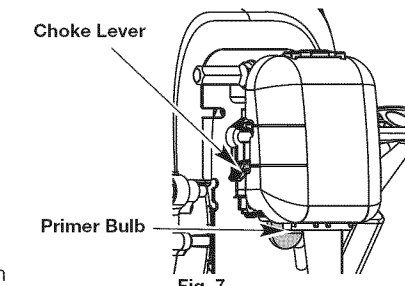
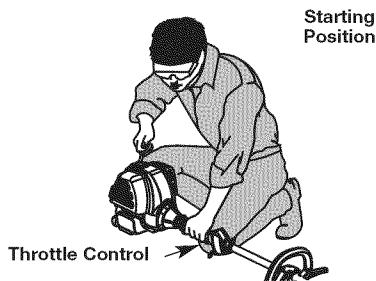

Fig. 7
Fig. 8
WARNING: Avoid accidental starting. Make sure to be in the starting position when pulling the starter rope (Fig. 8). To avoid serious injury, the operator and unit must be in a stable position while starting.
3. Fully press and release the primer bulb 10 times, slowly. Some amount of fuel should be visible in the primer bulb and fuel lines (Fig. 7). If fuel can not be seen in the bulb, press and release the bulb until fuel is visible.
4. Place the choke lever in **Position 1** (Fig. 7).
5. Crouch in the starting position (Fig. 8). Press the throttle lock-out in and squeeze the throttle control lever. Pull the starter rope 5 times.
6. Place the choke lever in **Position 2** (Fig. 7)
IF... the engine hesitates, return the choke lever to **Position 2** (Fig. 7) and continue warm-up.
3. Fully press and release the primer bulb 10 times, slowly. Some amount of fuel should be visible in the primer bulb (Fig. 7). If fuel cannot be seen in the bulb, press and release the bulb until fuel is visible.
4. Move the choke lever to **Position 1** (Fig. 7).
5. Crouch in the starting position (Fig. 8). Place the electric starter or power start bit into the back of the primer bulb. Refer to the Operation section of the Electric Starter or Power Start Bit operator's manual.
6. Press the throttle lock-out in and squeeze the throttle control lever. Press and hold the electric starter or drill ON (I) button for 2 seconds.
7. Move the choke lever to **Position 2** (Fig. 7).
8. Press the throttle lock-out in and squeeze the throttle control lever. Press and hold the electric starter or drill ON (I) button for 2-second intervals until the unit starts.
10. Continue squeezing the throttle control, move the choke lever to **Position 3** (Fig. 7) and run the unit for an additional 60 seconds. The unit may be used during this time.